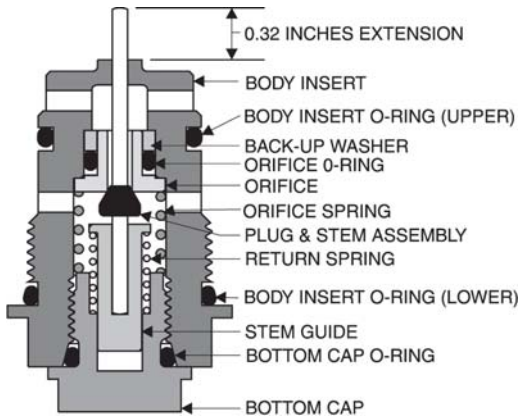

Figure 28 - Body Insert (Cartridge) Assembly drawing - Pressure Reducing mode (PRV).
- Body Insert Assembly:** Lift Bottom Cap complete with valve mechanism and insert into Body Insert. The Orifice Spring should snap the Orifice into place as the Bottom Cap is screwed into place. Check the assembly by pushing the Stem against a hard surface to make sure it moves freely and returns to the extended position. Measure the stem extension, it should extend 0.32 inches away from the Body Insert (refer to Figure 28 & 30).